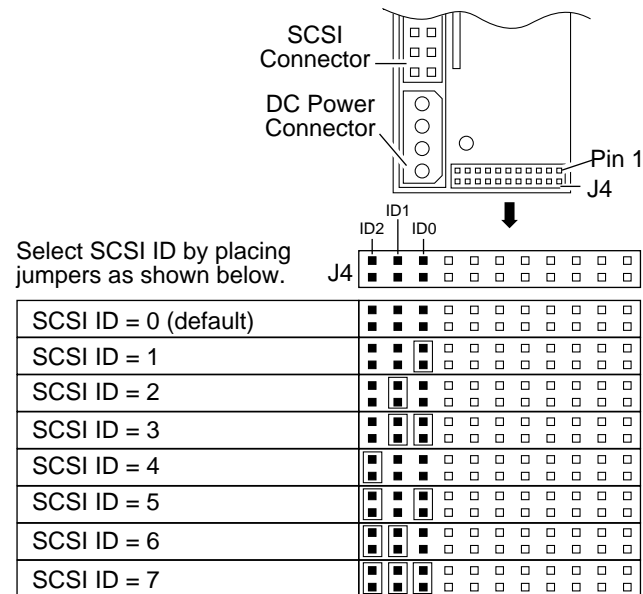
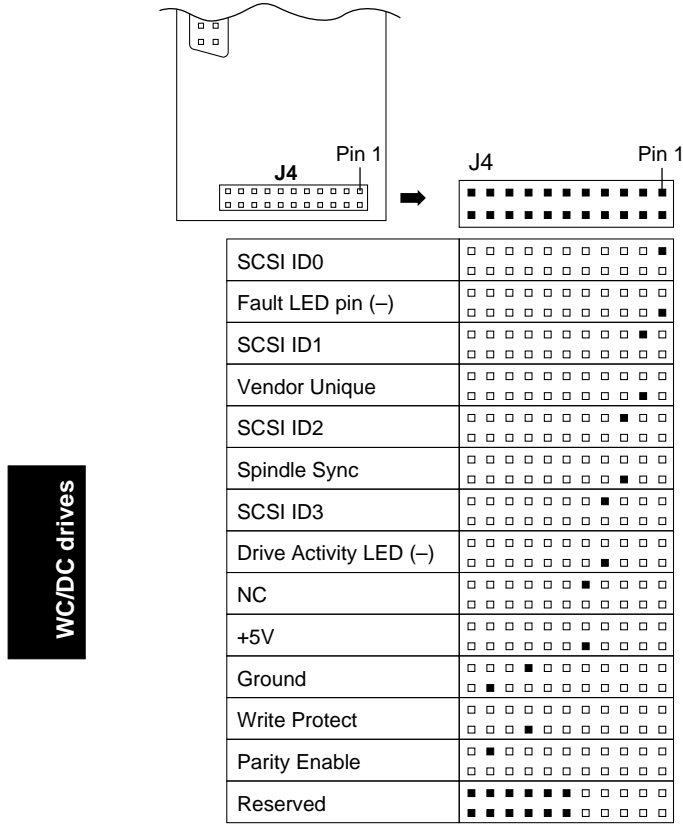

Figure 10. Setting the SCSI ID
Figure 21. Jumper options
3. Verify that you have correctly installed SCSI ID jumpers (see Figure 10, 15 or 21).
3. Stellen Sie sicher, daß die SCSI-Kennungsbrücken. Siehe Abbildung 10, 15 und Abbildung 21.
Use the J4 connector to set the SCSI ID (Figure 10). To change the SCSI ID, install jumpers on the appropriate pins as shown in the illustration.
The SCSI ID for WC and DC drives is normally set over the SCSI bus by the host system using connector contacts 39 (ID0), 40 (ID2), 79 (ID1), and 80 (ID3). Systems designers may, optionally, install a remote operator panel connection to set the SCSI ID. Figure 21 illustrates the SCSI ID pins used for this purpose.
Spindle synchronization for WC and DC drives is normally handled on the SCSI bus by the host system using connector contact 37 for the spindle sync reference signal. System designers may, optionally, install a spindle sync cable using pin 6 on the J4 connector to provide +SSREF (see Figure 21).
Remote LED connections are provided on the J4 connector (see Figure 21). You can connect 2-pin remote LEDs using these connections. Attach the (-) lead to the appropriate pin and then attach the (+) lead to the pin labelled +5V.